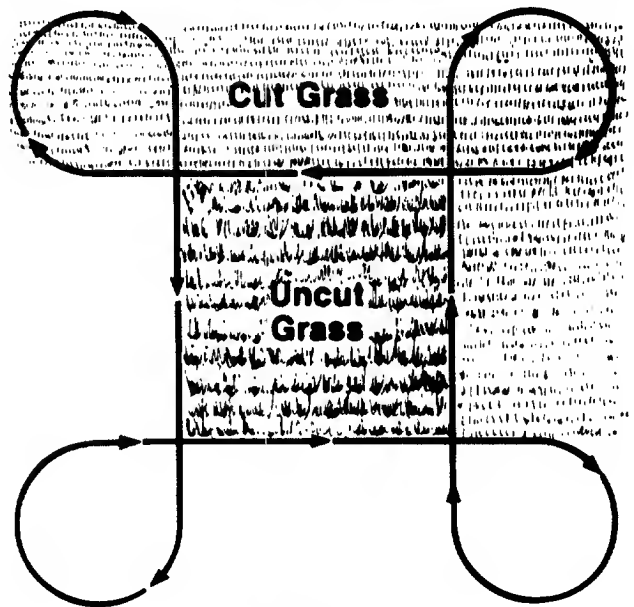

Figure 35
4. Follow the mowing procedure shown in Figure 35.